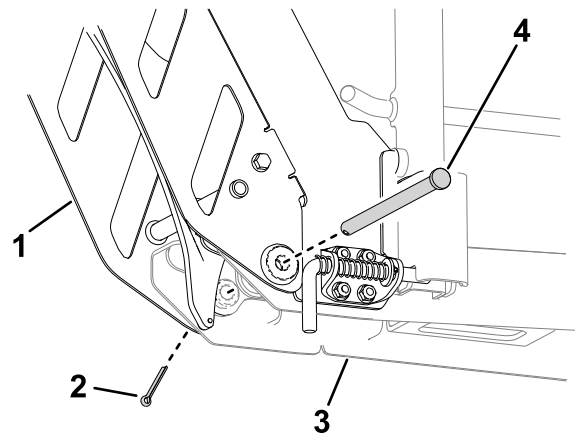

**Figure 15**
9. Connect the spring to the wheel stop and the ramp bottom (Figure 15).